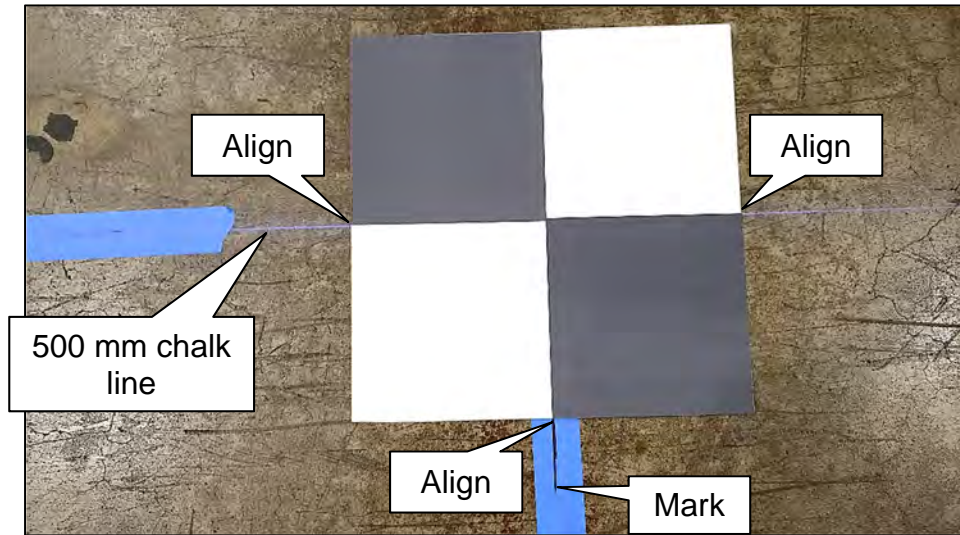
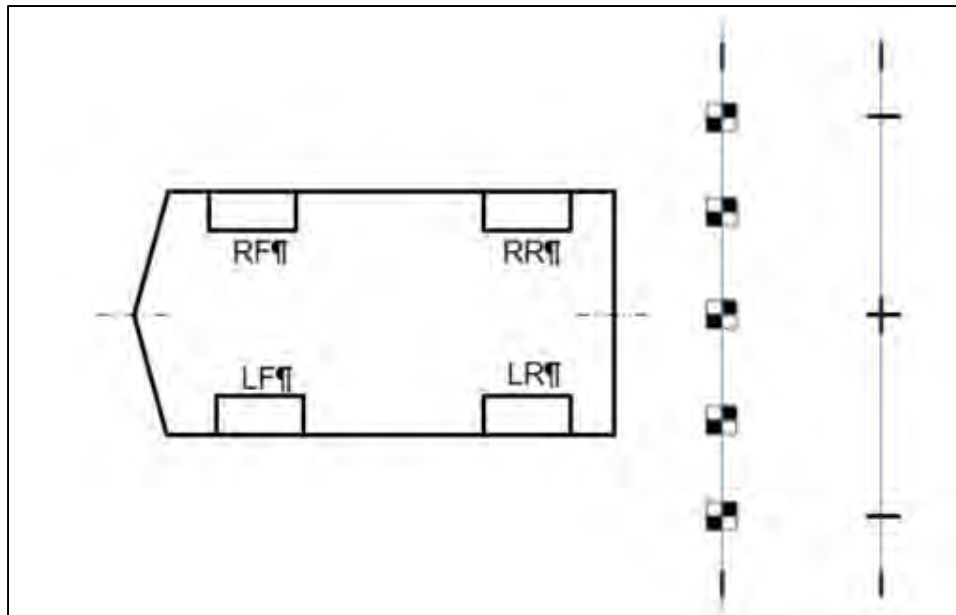
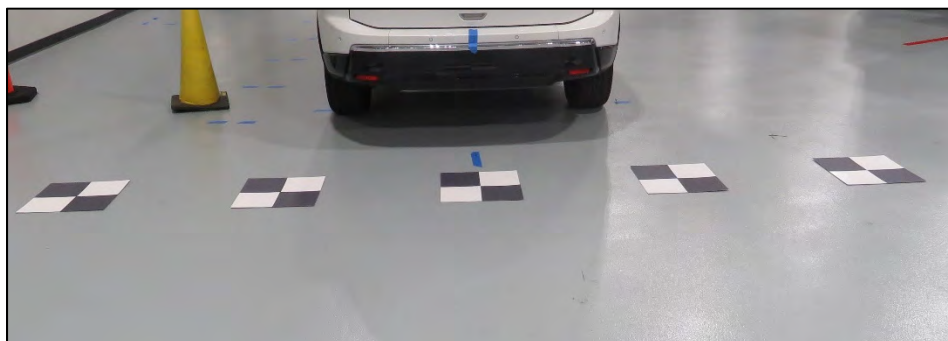

Figure 94
Figure 95
Figure 96
61. Place five (5) targets on the marks along the 500 mm chalk line.
**IMPORTANT:** Orient and align the targets, as shown in Figure 94, Figure 95, and Figure 96. The targets must be aligned with the 500 mm chalk line and the marks made in step 60 on page 47.